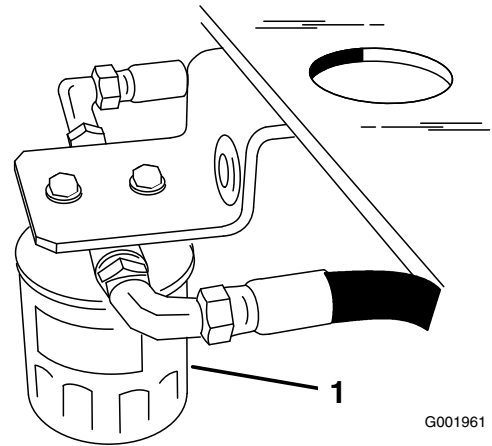

Figure 55
4. Locate the filter under the fuel tank and place drain pan under filter (Figure 55).